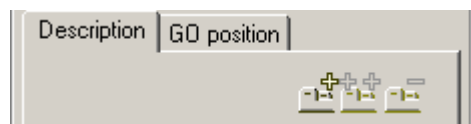

Figure 3.4.
4. Add a new graphic element (GE) by clicking the  at the lower panel (Fig. 3.4).